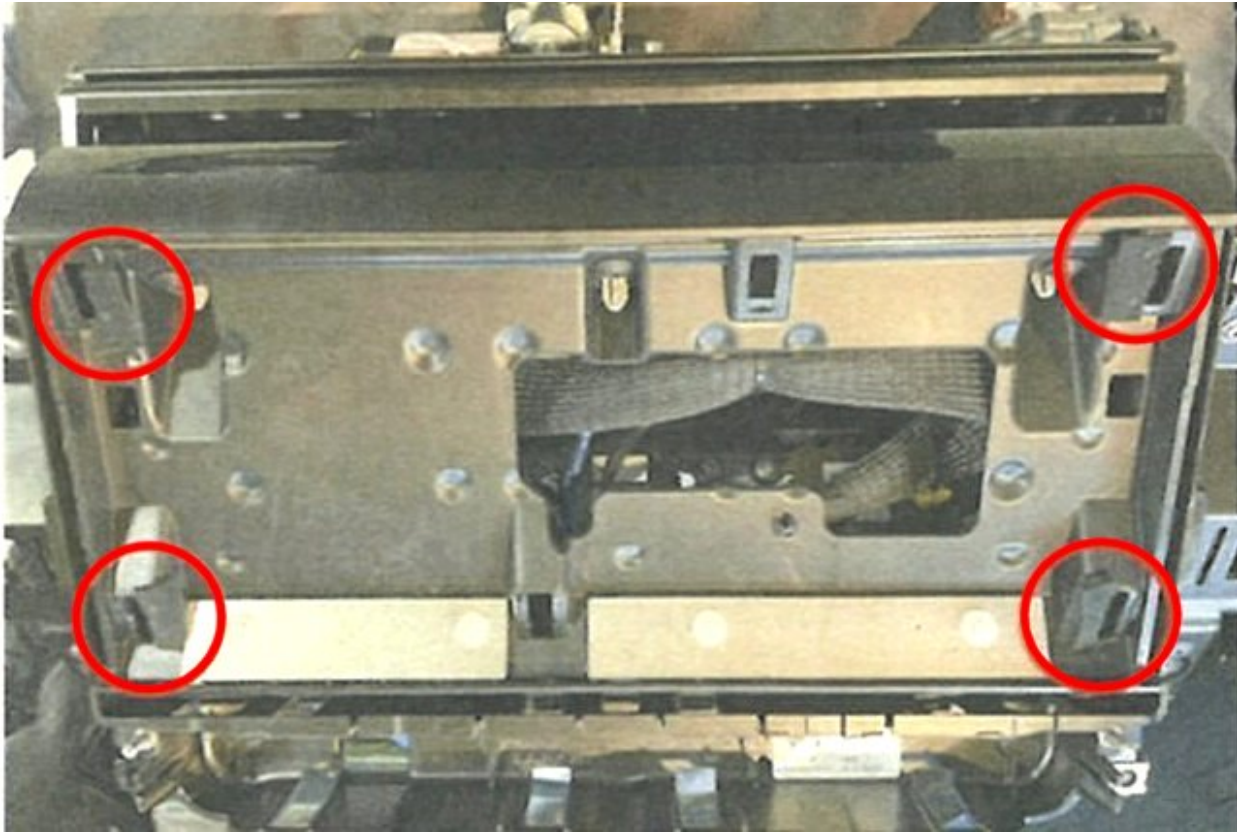

Figure 3
5) Remove **All** anti creak tape from the (x4) locations shown for the Display clocks and dials fascia and Veneer fascia) as shown in Figure 3